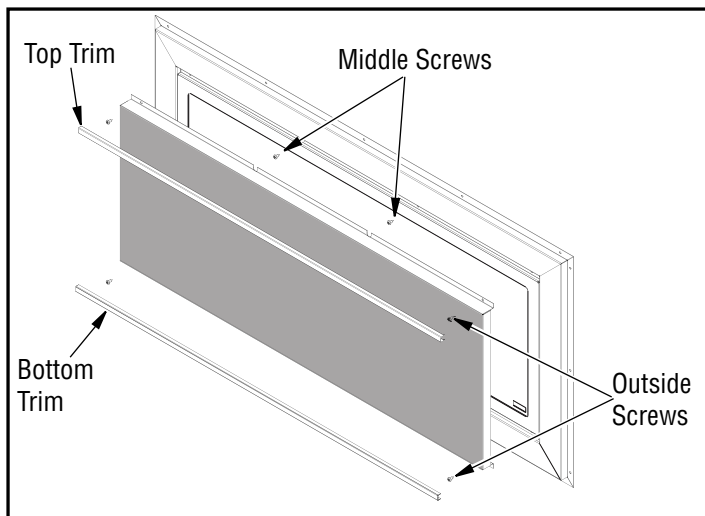

Figure 46 - Removing Exterior Glass Door for Cleaning
1. Using a flat head screwdriver, pop out the top and bottom trim pieces as shown in **Figure 46**.
1. Using a flat head screw driver, pop out the top and bottom trim pieces as shown in **Figure 46**.